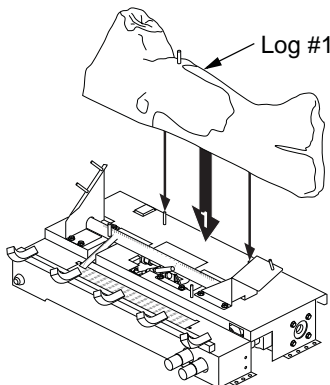

Figure 24 - Installing Rear Log (#1)
1. Align two pegs near rear of base behind support brackets with two holes in bottom of rear log (#1). Place logs on pegs (see Figure 24, page 15).